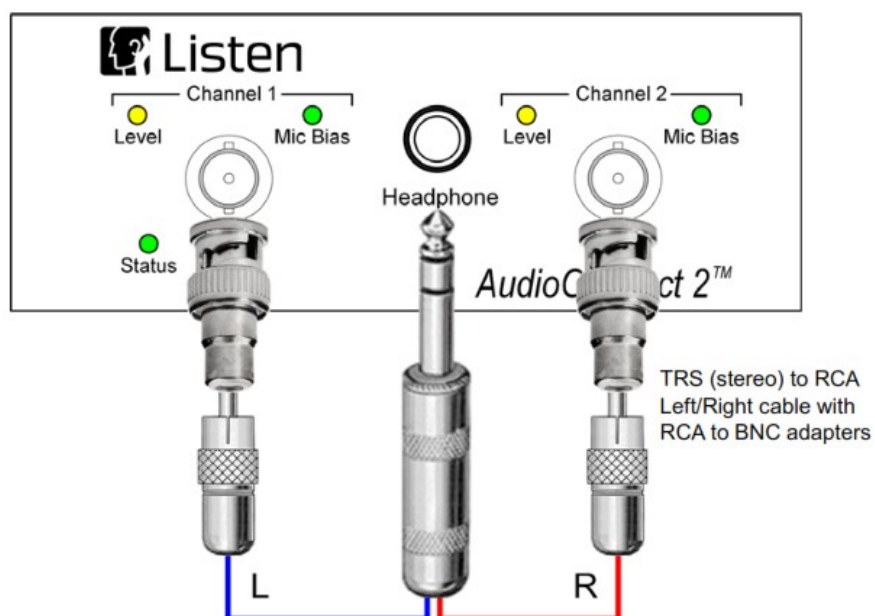
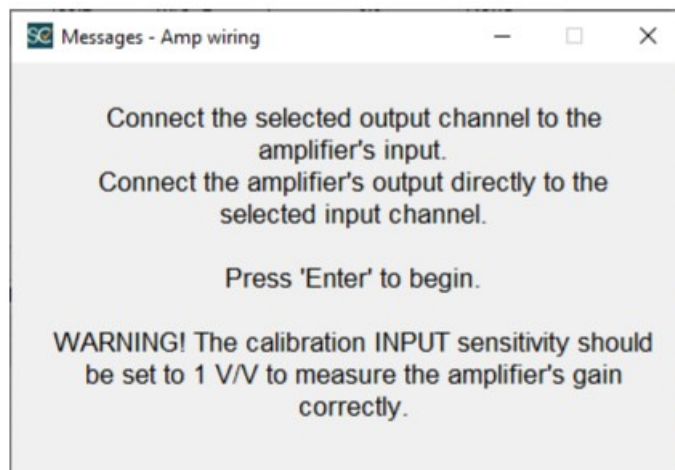

Figure 2-16: Calibration Wiring
Figure 2-18: Wiring Instructions
This procedure requires the use of a Stereo 1/4" TRS to RCA Male Left/Right cable (typically called an Insert Cable) with two RCA to BNC adapters. The wiring is shown in Figure 2-16.
3. When prompted with the wiring instructions shown Figure 2-18, use the example from Figure 2-16. Select Enter to continue.